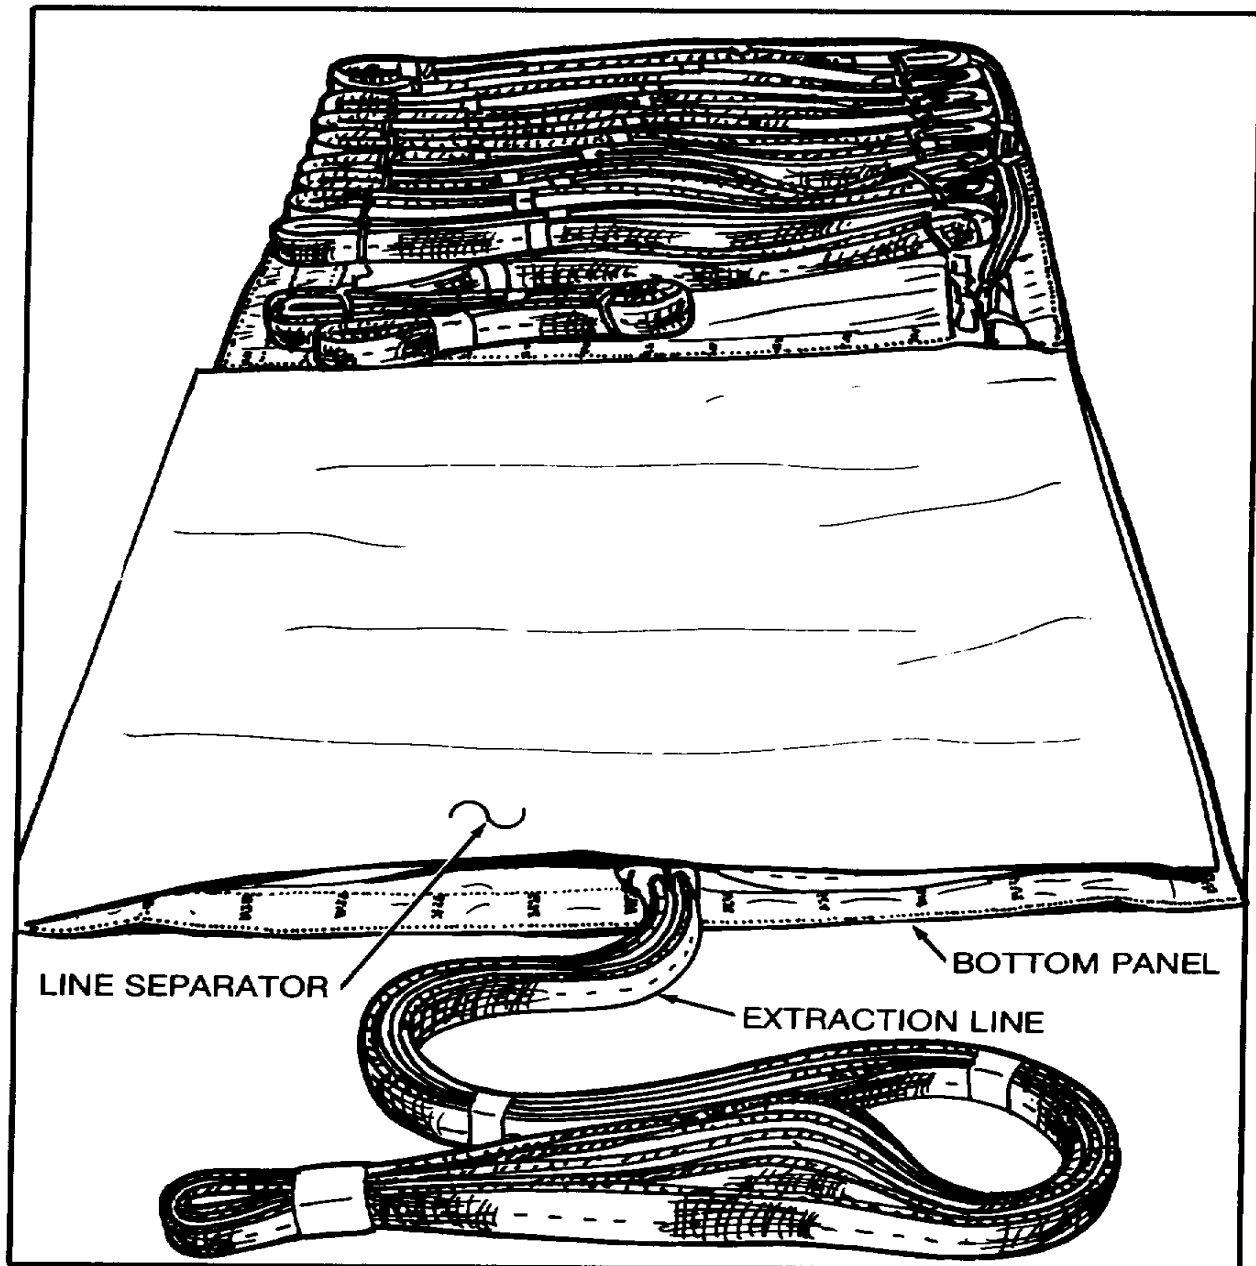

Figure 8. Line Separator in Place.
- a. Place 36 x 38-inch sheet of kraft paper (line separator) on top of stowed extraction line of bottom panel (figure 8).